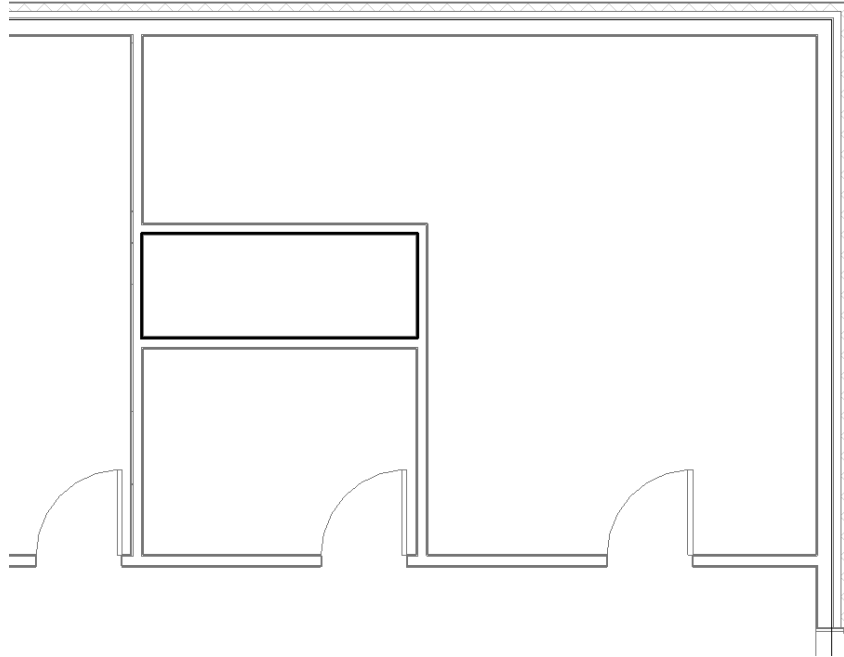

FIGURE 7-3.10 Level 2 (North-East corner): Floor boundary at shaft
24. While still in *Sketch* mode for the Level 2 floor, pan to the right to show the area in Figure 7-3.10.